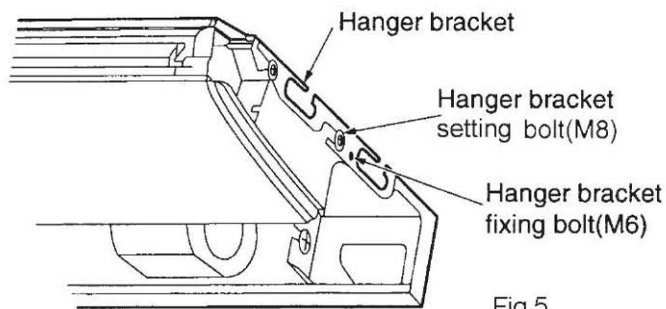

Fig.5
☆ Loosen two hanger bracket setting bolts (M8) on each side for less than 10mm. Remove two hanger bracket fixing bolts (M6) on the rear side. Detach the hanger bracket by pulling it backward (Refer to Fig.5).
6. Screw tightly both hanger bracket-setting bolts (M8). (Refer to Fig.5)
7. Screw tightly both hanger bracket-fixing bolts (M6) to prevent the movement of the indoor unit. (Refer to Fig.5)